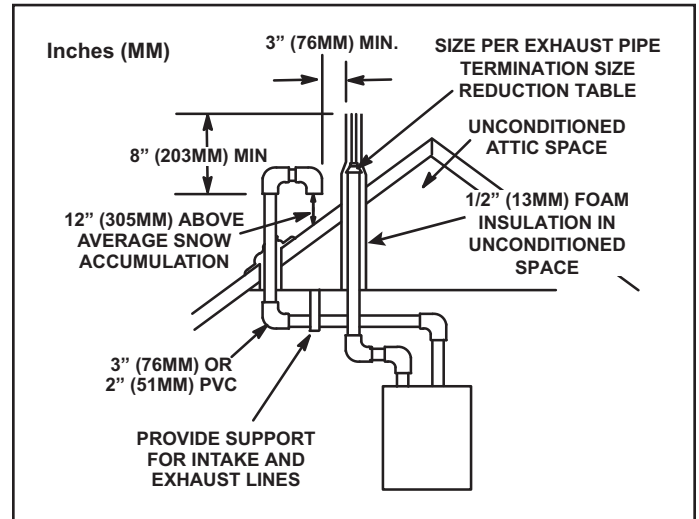

Figure 27. Direct Vent Roof Termination
3. On roof terminations, the intake piping should terminate straight down using two 90° elbows (Figure 27).